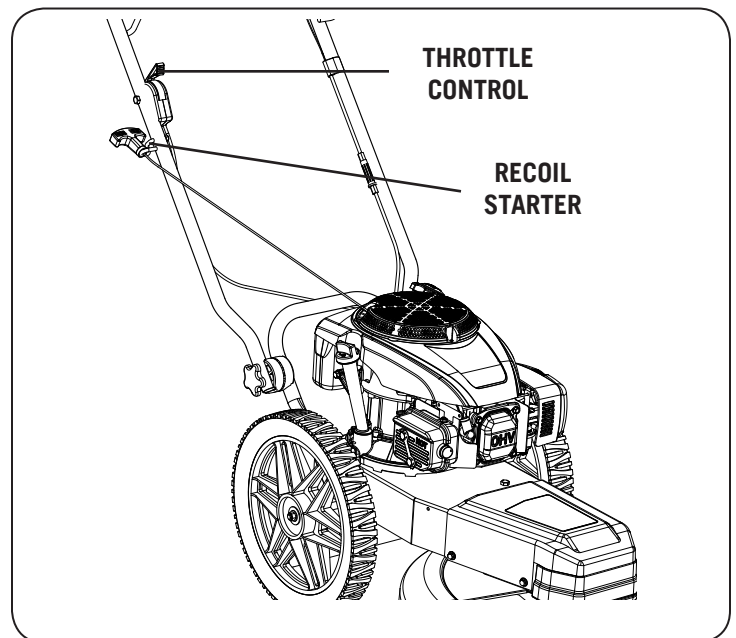

Figure 8
1. Push the throttle control lever on the right side of the handlebar (see Figure 8) all the way forward (choke position).
1. Move the throttle control lever (see Figure 8) all the way back past the SLOW position to the STOP position.